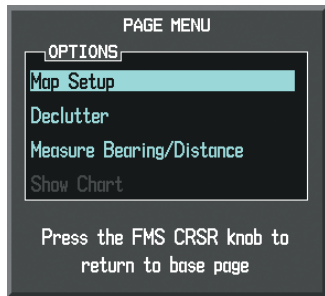

Figure 6-128 Navigation Map Page Menu
- 3) With Map Setup highlighted, press the **ENT** Key (Figure 6-128).